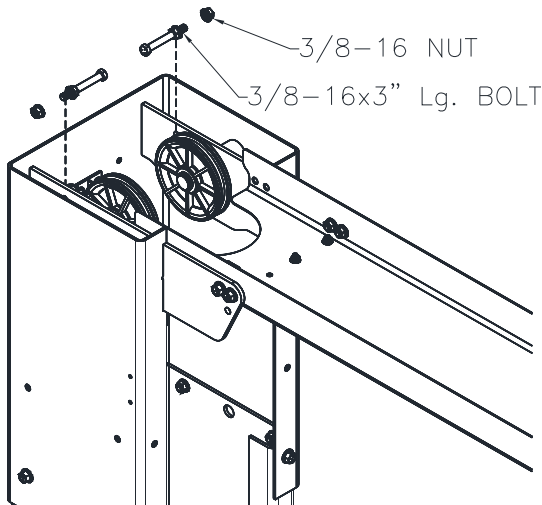

Fig. 9 – Column Ext. Cable Trapping
- 23) At the top of each column extension assemble a 3/8-16 x 3" lg bolt with (2) 3/8-16 flange nut at each sheave location, **Fig. 9**.